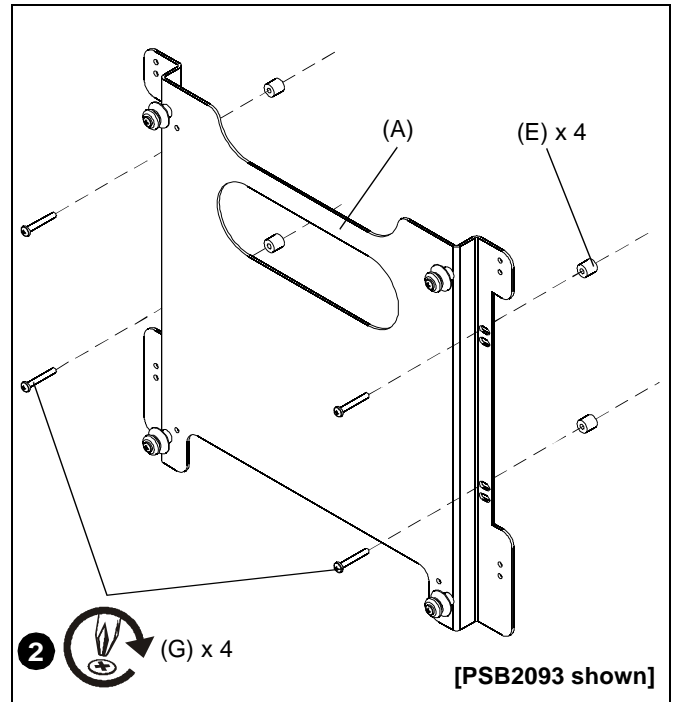

Figure 2
2. Attach interface bracket (A) to back of display using four M5 x 40mm Phillips cap head screws (G) and four .5 x .194 x .5 nylon spacers (E) for the PSB2093. (See Figure 2)